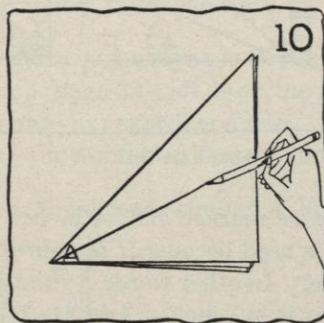

FIG. 10.
- (5) From point A draw another pencil line the same distance from each folded edge (see Figure 10).